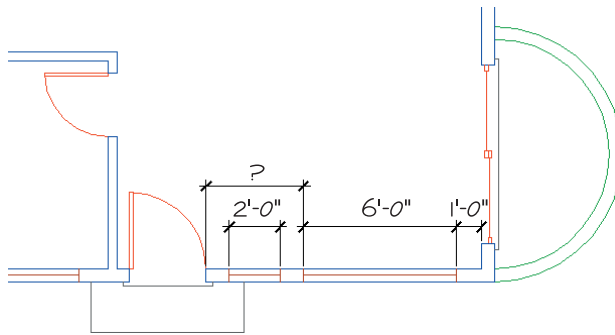

FIGURE 7.29: The windows in the front wall of the living room
1. Use the Pan command to move the drawing down to the front wall of the living room. One window is 6' wide. Its right jamb is 12" to the left of the inside corner of the wall. The other one is a circular window, 2' in diameter, positioned halfway between the 6' window jamb and the front doorjamb (see Figure 7.29). We don't know that distance yet.